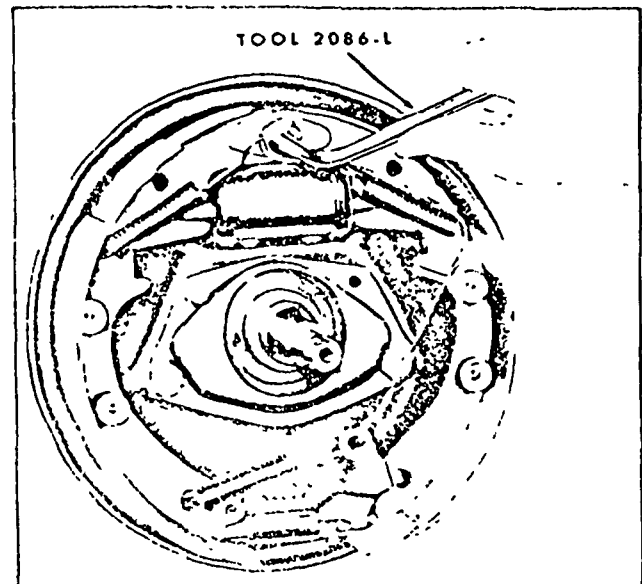

Fig 2-18. Removing Brake Shoe Retracting Spring (60L-2410)
5. Remove the primary shoe to anchor spring and spacer plate first. (See Figures 2-18 and 2-19.) Remove the secondary shoe to anchor spring and unhook the cable anchor.